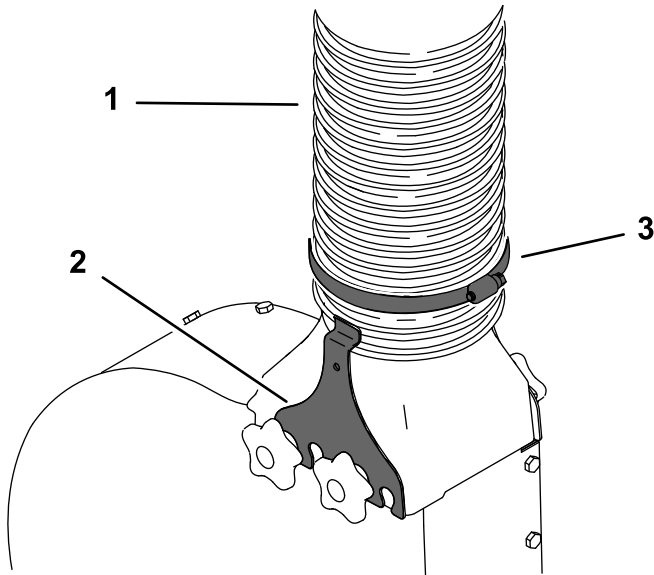

Figure 1
1. Loosen the hose clamp and blower clamps and remove the hose from the blower assembly (Figure 1).